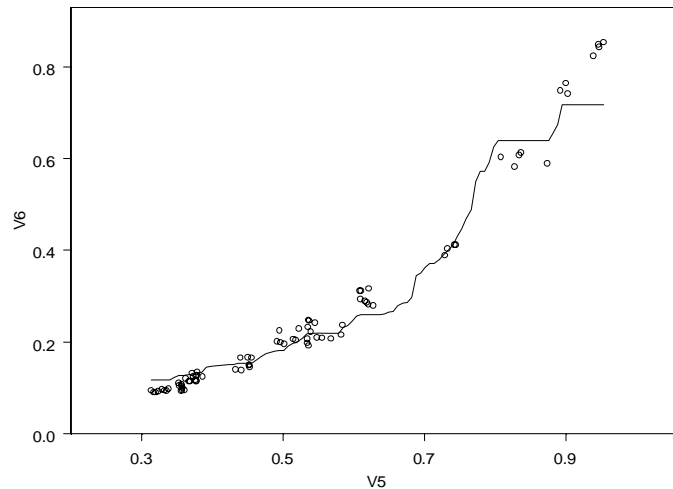

Figure 3.15: Sensor 5 versus sensor 6 with a box kernel smoother line using bandwidth 0.3.
2. On the **Smooth/Sort** page of the **Line/Scatter Plot** dialog, notice the default value for the smoother bandwidth (look in the **Bandwidth** box of the **Kernel Specs** group). Experiment with various bandwidth choices between 0.1 and 0.6 by entering different numbers in the **Bandwidth** box and clicking **Apply** (so that the **Line/Scatter Plot** dialog remains open). Which bandwidth produces the best “by eyeball” curve fit? The smoother with bandwidth choice 0.3 is shown in Figure 3.15.